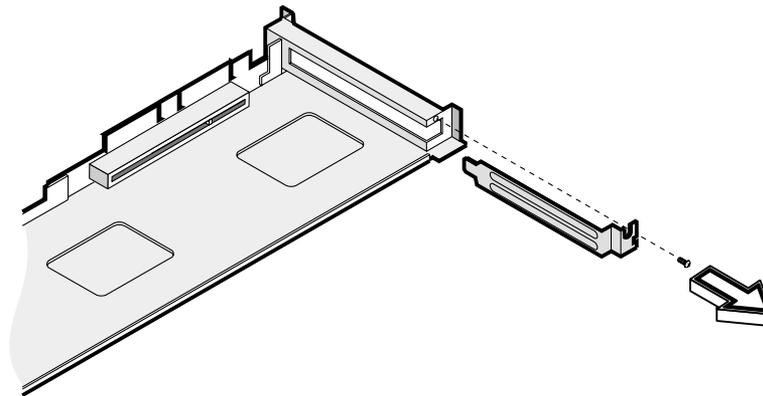

Figure 2-8 Removing the Expansion Slot Filler Plate
3. Remove the expansion slot filler plate as shown in Figure 2-8. Save the screw for later use.